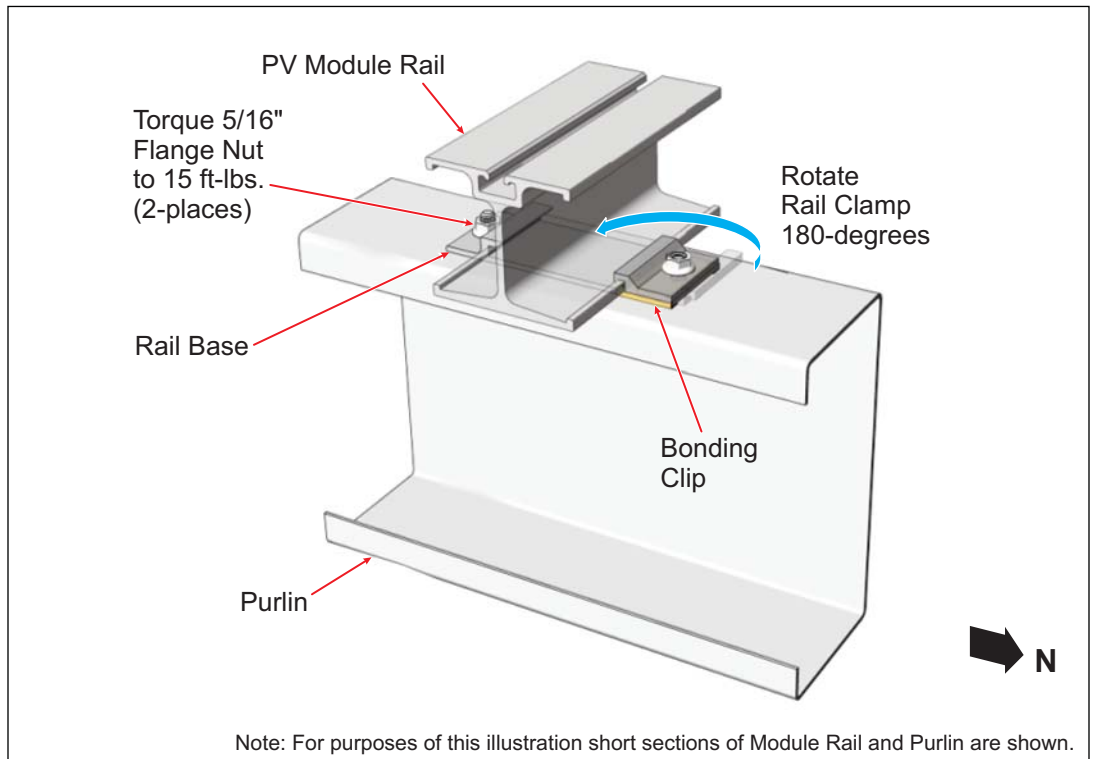

Figure 5: Installing the Rail (Purlin application)
- B. Rotate the Rail Clamp, nesting it onto the opposite side of the Module Rail substrate. (See Figure 5)